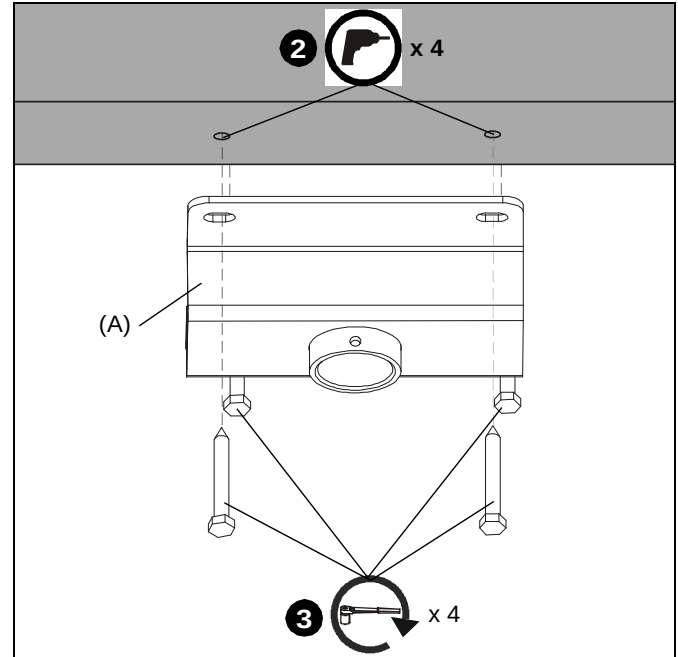
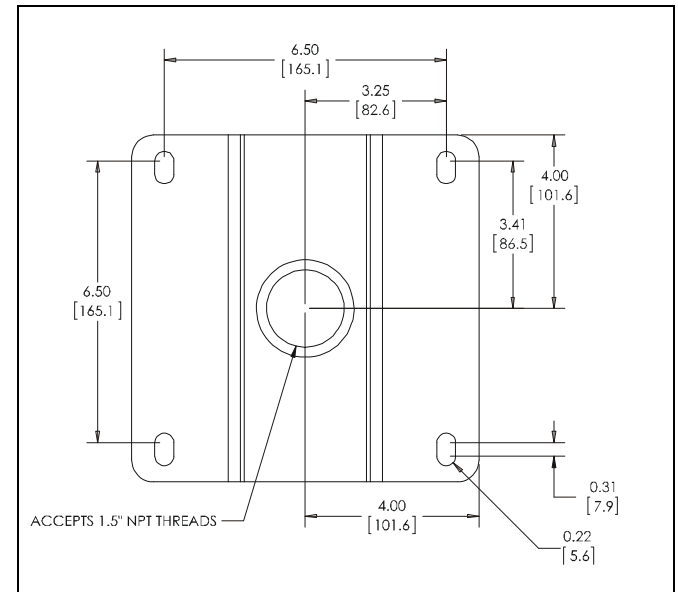

Figure 2
Figure 3
2. Drill 1/4" diameter pilot holes into wood joists (See Figure 2). Ensure pilot holes are straight.
3. Install and tighten four 3/8" x 2-1/2" (minimum) Grade 2 lag screws (not included) through CMA330 (A), into wood joist (See Figure 2). See Figure 3 for dimensions details.
2. Secure the threaded rods to the CMA mount with ASTM A307 or better 3/8" jam nuts (not provided) and washers (one of each on inside and one of each on outside--not provided). See Figure 3 for dimensions details.
1. Use four Ux10 anchors (not provided) to secure CMA mount into solid concrete ceiling. See Figure 3 for dimensions details.